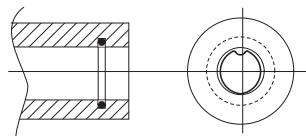

Fig. 1.07
1.4.04) First put the O-ring back in its seat and then the seal ring pos. 75, making the O-ring adhere perfectly using a blunt tool. To make it easier to insert the ring, follow the instructions in fig. 1.07.
1.5.07) First put the O-ring back in position and then the sealing ring pos. 72, making the O-ring adhere perfectly using a blunt tool. To make it easier to insert the ring, follow the instructions in fig. 1.07.